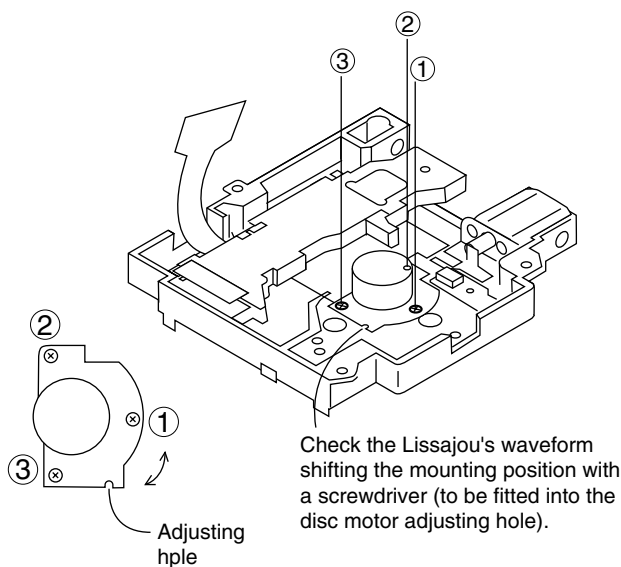

Figure 10-4
2. After adjustment, tighten screws 1,2, and 3 in numerical order. (See Fig. 10-4)